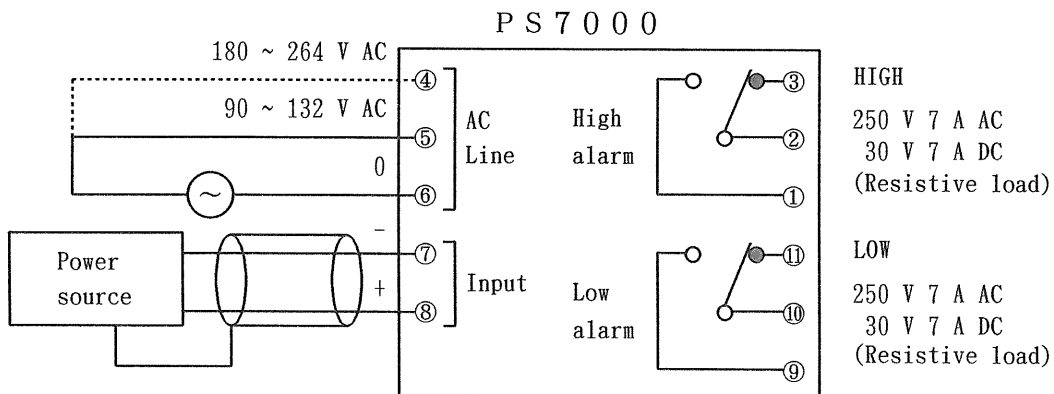

Fig. 4 Wiring
- (1) Connect the cables to terminals as shown in Fig. 4.
- (2) Double-check wiring for correctness.